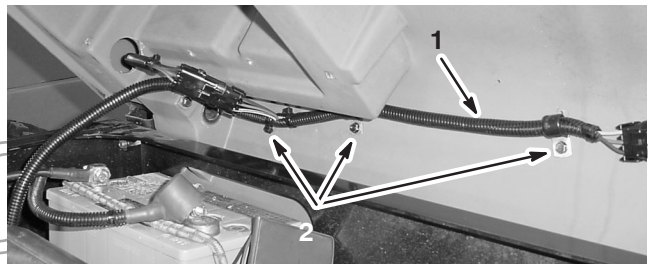

Figure 20
- Route the rear wire harness from the left taillight harness, across the back, and over to the right side, securing it with 3 R-clamps and 3 screws (1/4 x 0.82 in.) (Fig. 20).